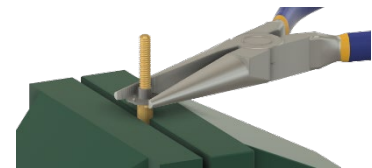

Figure 3
- ☐ Use needle nose pliers to tighten the tee nut all the way down, making sure not to bend/fold the prongs as these hold the propellers in place. Tighten until the tee nut is snug and stops rotating, but do not overtighten (Figure 3).